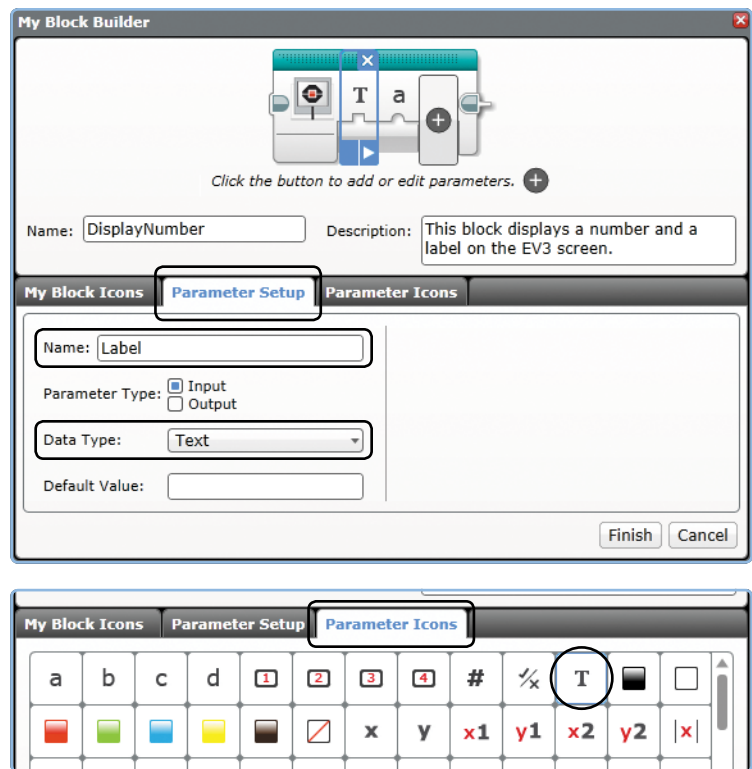

Figure 15-18: Configuring the Label input parameter
6. Open the Parameter Setup tab, select the first parameter, and configure it as a Text input called *Label*, as shown in Figure 15-18. Also, choose a descriptive icon, such as the T icon, for this input on the Parameter Icons tab.